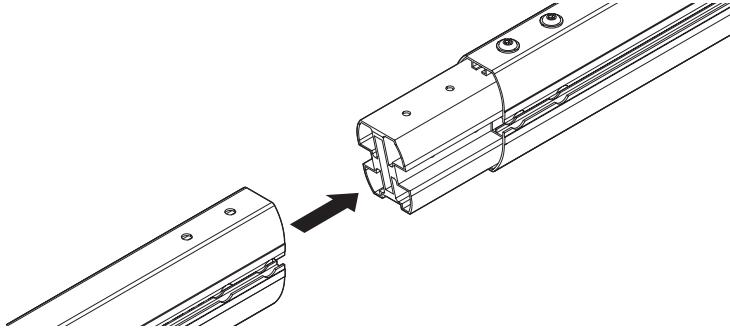
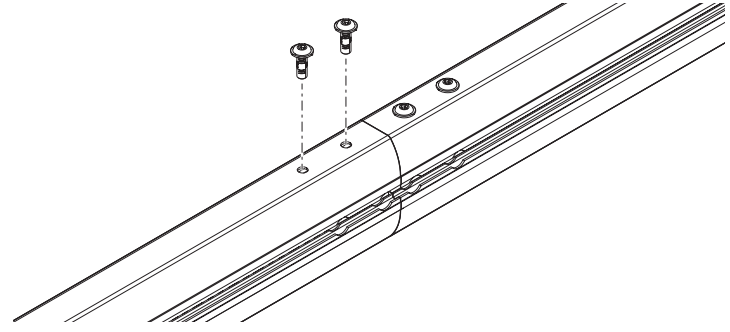
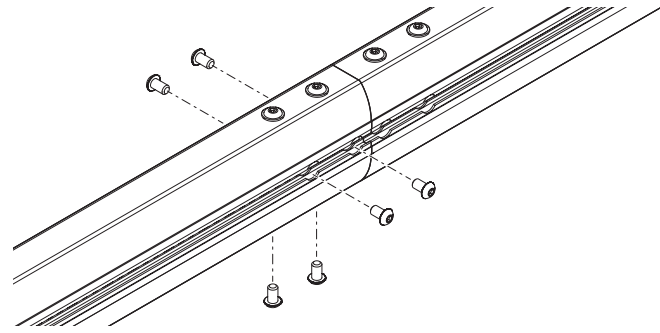

Figure 3
Figure 4
Figure 5
6. Install the additional segments one at a time, supporting the "hanging" end of the arm. Make sure to tighten the top bolts first to remove slack. Ensure all bolts assemble before seating any. Torque all bolts to 7ft-lbf, starting again with the top. See Figure 3, Figure 4, and Figure 5.